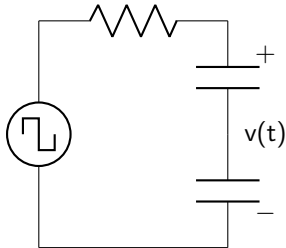

Figure 10.1: RC circuit diagram.
1. Is figure 10.1 a first order or second order circuit? How do you know?